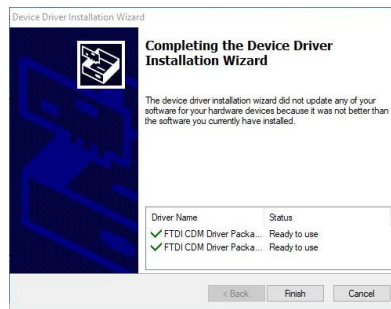

Figure 4-4: Installation Complete
Step 5: The installation completion window appears (**Figure 4-4**). Click **Finish** to exit.